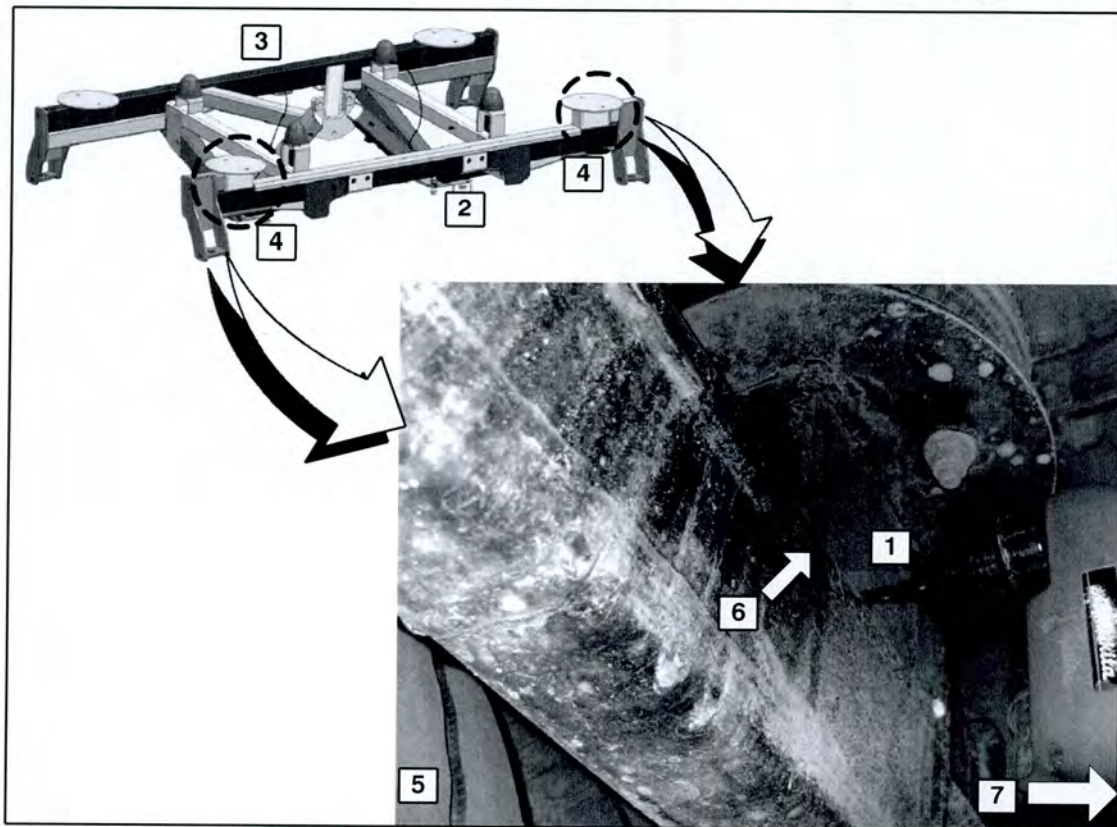
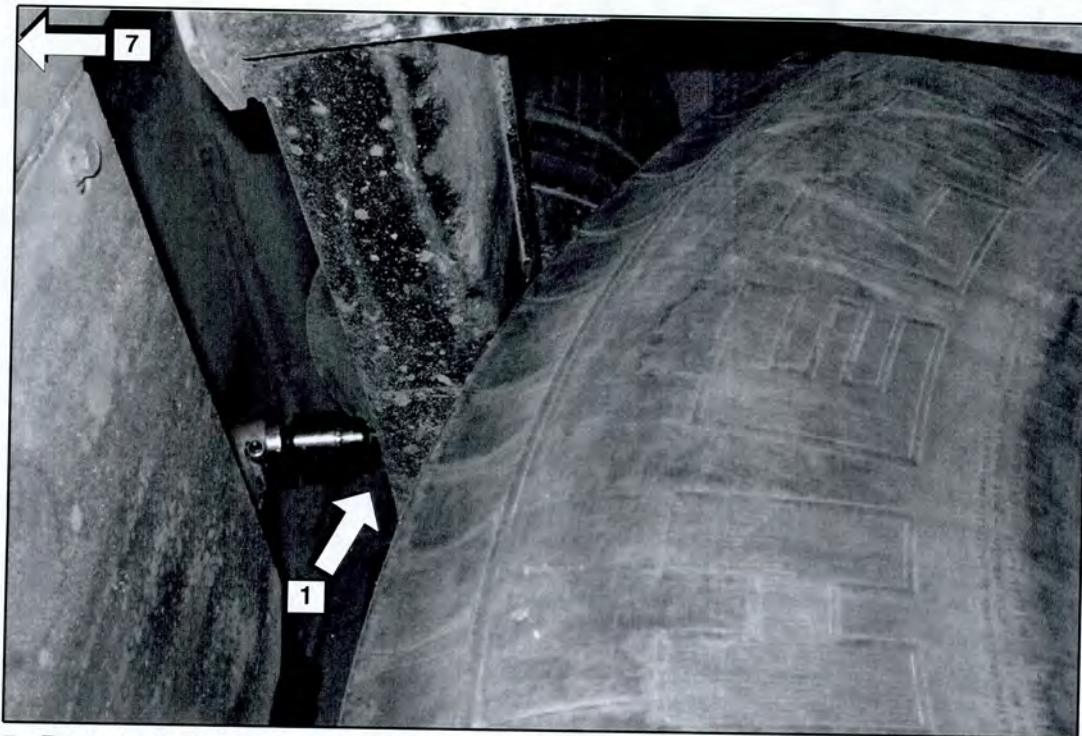

Figure 4. Drain hole drilled in the drive suspension support structure (roadside of coach shown).
Figure 5. Drain hole drilled in the drive suspension support structure (curbside of coach shown).
The holes that are to drilled in Step 6. (Figures 4 and 5) must be drilled on the front vertical face of the tube to prevent the potential for water spray intrusion from the drive axle wheel.
6. With the coach in the High Ride position, use a 0.250 inch drill bit and an angle drill to drill a hole 0.125 inch above the weld, directly underneath the air bag on the front, vertical face of the tube (on the opposite side of the drive axle wheel) as shown in Figure 4. Repeat to other side of the tube (refer to Figure 5).